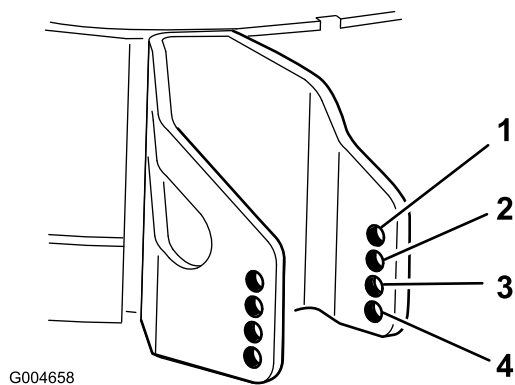

Figure 9
4. Select a hole so the anti-scalp roller is positioned to the nearest corresponding height-of-cut desired (Figure 9).